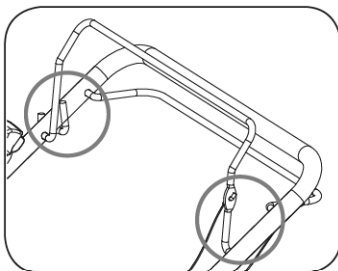

Figure 30
1. Lubricate pivot points on the blade and drive controls at least once a season with light oil. These controls must operate freely in both directions. (See **Figure 30**)